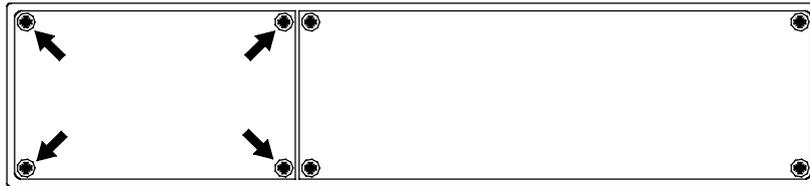

Figure 13 – Removing the Remote Control battery cover
**do this:** Turn the Remote Control unit over and remove the 4 screws shown in **Figure 13** using the 1-point Pozidriv screwdriver supplied. Please do not use a Philips head screwdriver as this will damage the screw heads. Lift off the battery cover.